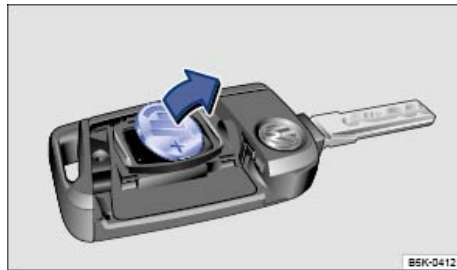

Fig. 21 Remote control vehicle key: Remove old battery.
- Use a thin object to pry the battery out of the battery compartment ⇒ fig. 21.
- Position the new battery in as shown ⇒ fig. 21 and press it into the battery compartment (opposite direction of the arrow) ⇒ ⓘ.